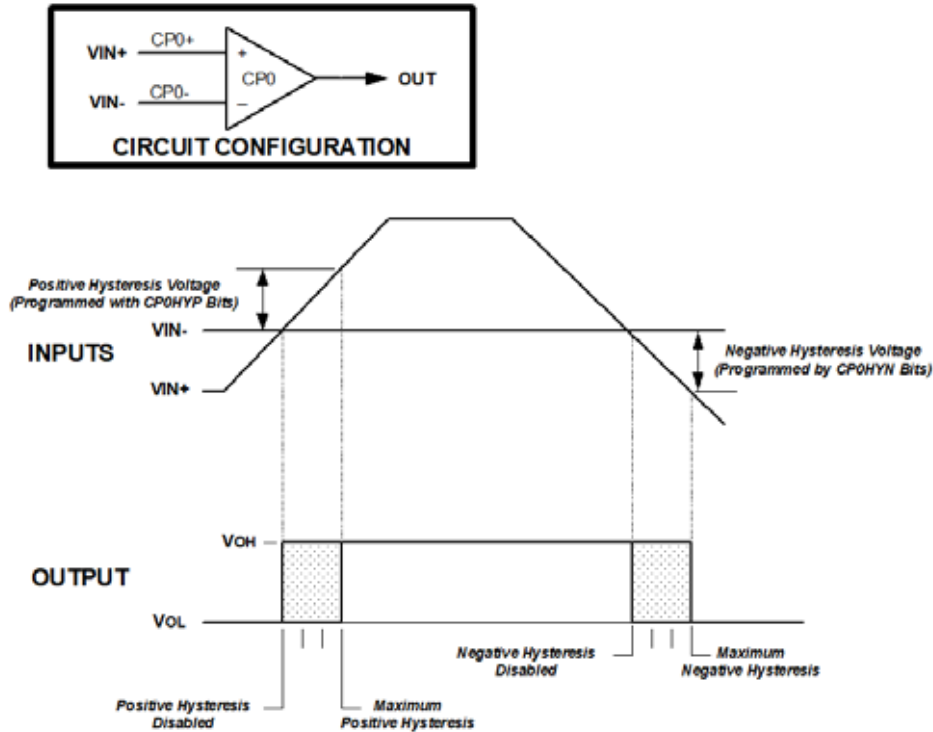

**Figure 7.1. Comparator Functional Block Diagram**
C8051F34x devices include two on-chip programmable voltage Comparators. A block diagram of the comparators is shown in Figure 7.1, where “n” is the comparator number (0 or 1). The two Comparators operate identically with the following exceptions: (1) Their input selections differ, and (2) Comparator0 can be used as a reset source. For input selection details, refer to SFR Definition 7.2 and SFR Definition 7.5.